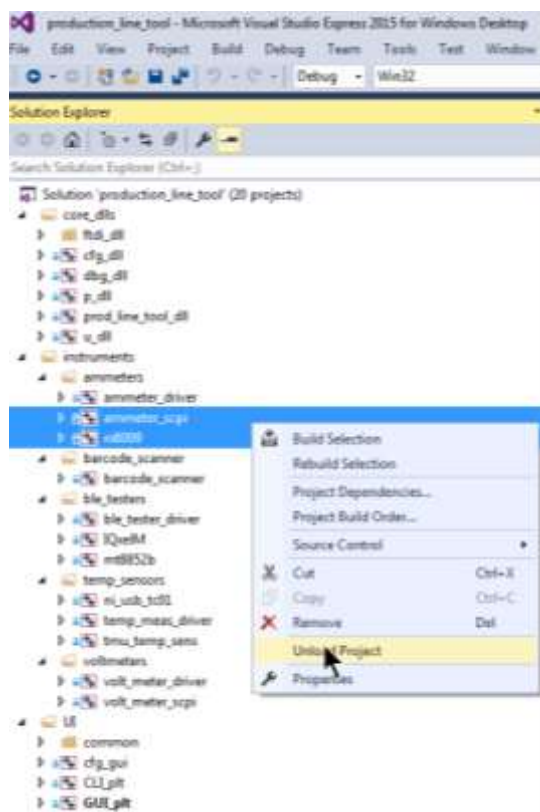

Figure 4: Unload Visual Studio Ammeter Projects
8. If current measurements are not required to be performed, then the instrument DLL projects should better be unloaded as they will require NI-VISA to be built. Right click the `ammeter_scp` and `ni6009` projects and select 'Unload Project', as shown in Figure 4.